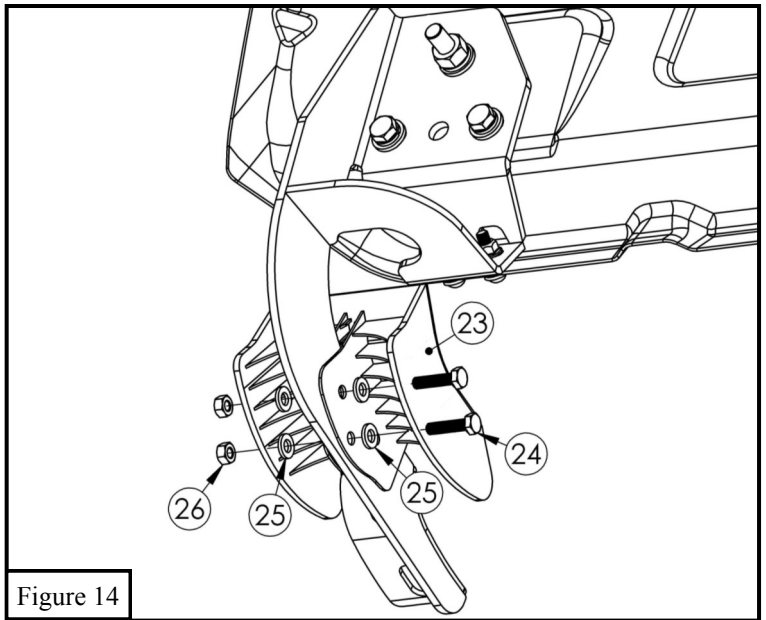

Figure 14
9. Locate (1) Plastic Bracket Cover (Item 23) and loosely secure it to the brackets using the provided hardware: (2) M6 hex head cap screws, (4) M6 flat washers, and (2) M6 nylon lock nuts. Repeat for every bracket. See **Figure 14**.